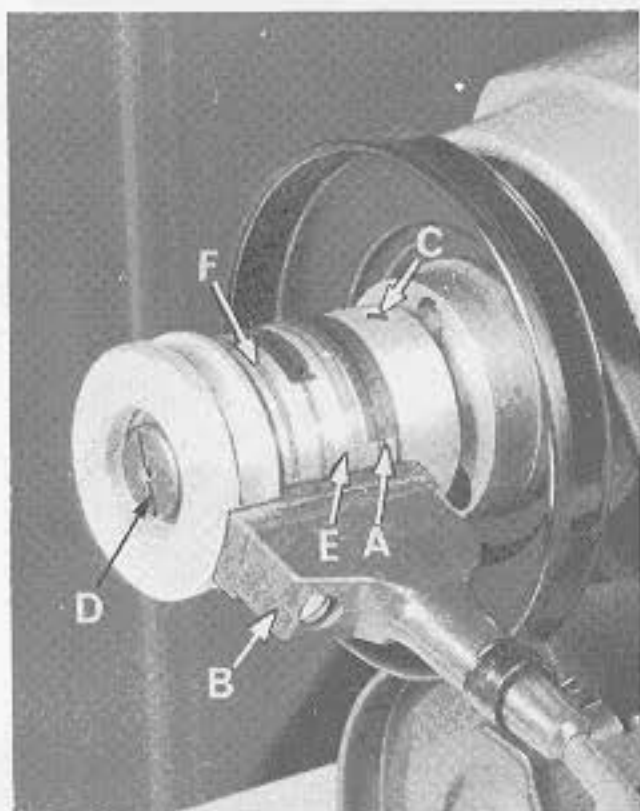

Fig. 33
- (b) At this time the brass contact of the left band (A, Fig. 33) should be flush with the front edge of the brush holder (B). To make this adjustment position needle bar and deflector plate as described in step (a), then loosen set screws (C) in synchronizer and move as required.
- (c) Down position should be a point at which the hook point has passed the center line of the needle by  $\frac{5}{64}$  of an inch (1.98 mm) "loop taking time". If not, with power off, rotate handwheel to this point. Then loosen screw (D) at end of synchronizer and rotate third band from left (E) in operating direction until its brush is in the middle of the black plastic band.